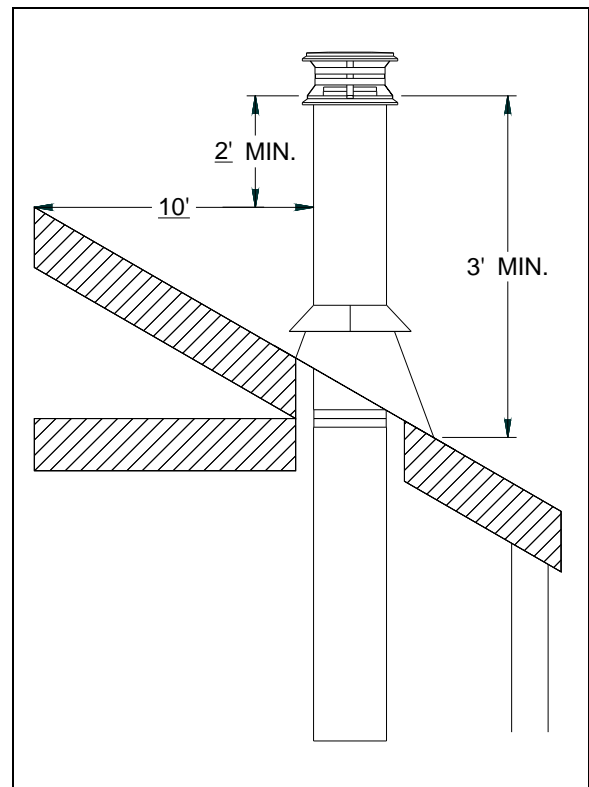

Figure 21
6. The chimney must extend at least 3 ft. (1 m) above its point of contact with the roof and at least 2 ft. (0.6 m) higher than any wall, roof or building within 10 ft. (3 m) of it (Figure 21).